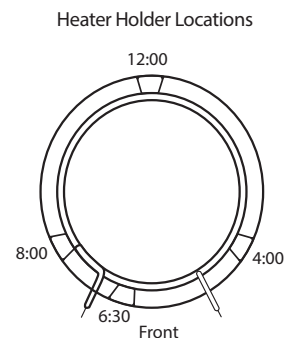

Figure 5
17. Align the heater holders as shown in Figure 5. Fryers with four "floating" heater holders will use positions at 12:00, 4:00, 6:30, and 8:00 o'clock. Fryers with three secured heater holders will use positions 12:00, 4:00, and 8:00 o'clock, as indicated by the studs on the fryer pot. Replace the nuts on applicable heater holders but do not tighten them yet.